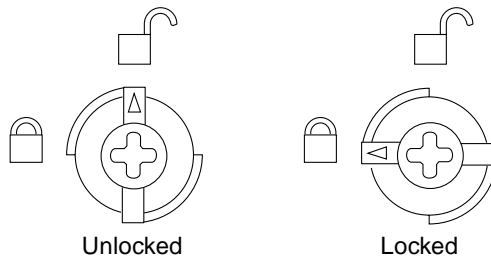
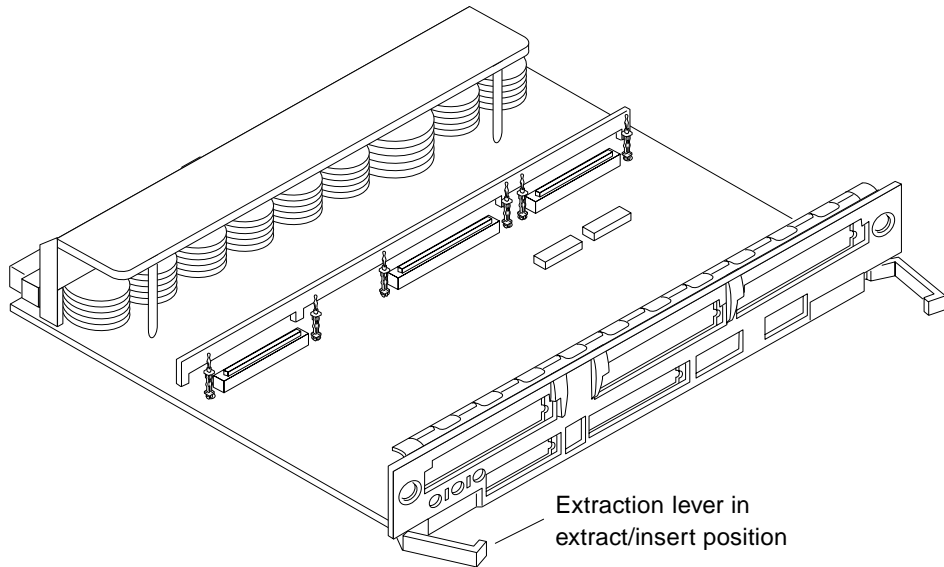

FIGURE 4-7 Unlocking and Locking Quarter-Turn Access Slots
FIGURE 4-8 Extraction Lever in Extract Position
Insert the screwdriver into each quarter-turn access slot (the slots are located on the left and right sides of the board front panel) and then turn a quarter turn so that the arrow points to the unlocked position (FIGURE 4-7).
4. Pull the ends of both extraction levers outward simultaneously to unseat the board centerplane connector from the centerplane receptacles (FIGURE 4-8).
3. Pull the ends of both extraction levers outward simultaneously to unseat the board from the centerplane receptacles (FIGURE 4-8).
The board will not seat fully unless the levers are in this starting position and the access slots are unlocked. See FIGURE 4-7, and FIGURE 4-8 on page 4-10.
- 4. Mechanically lock the board to the system chassis by inserting a Phillips #1 screwdriver into each quarter-turn access slot and then turning to the locked position (FIGURE 4-7).**